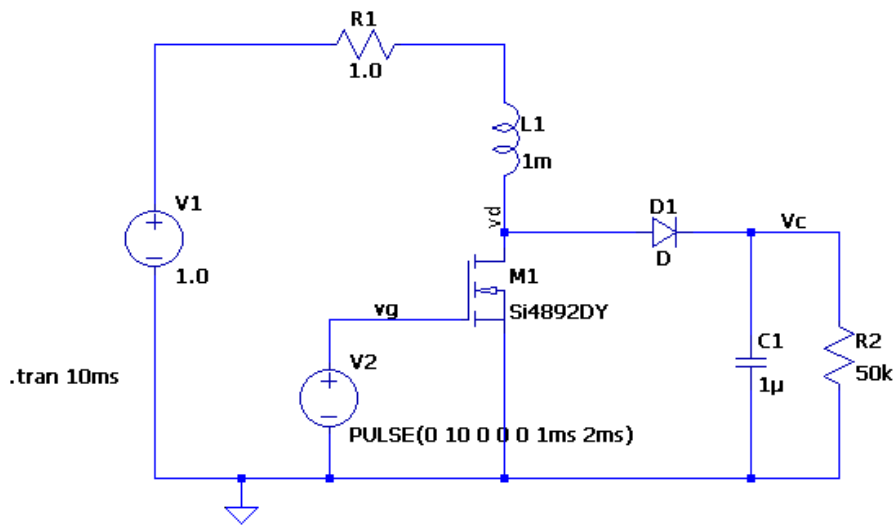
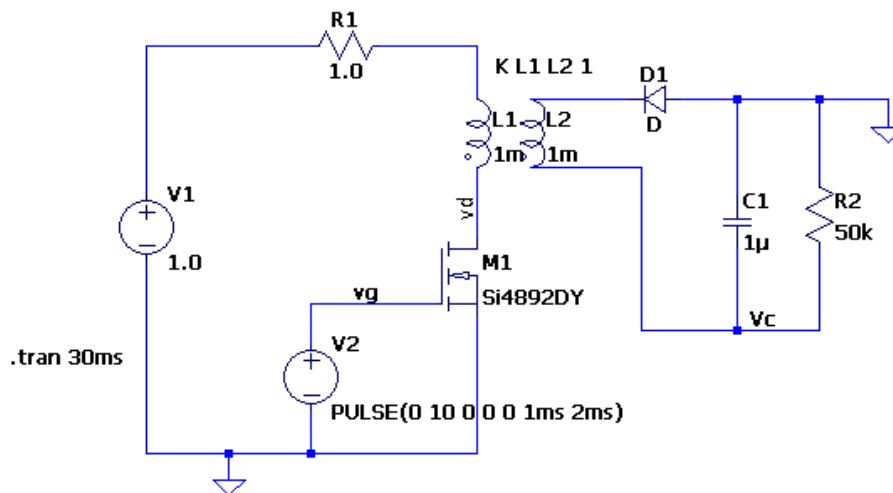
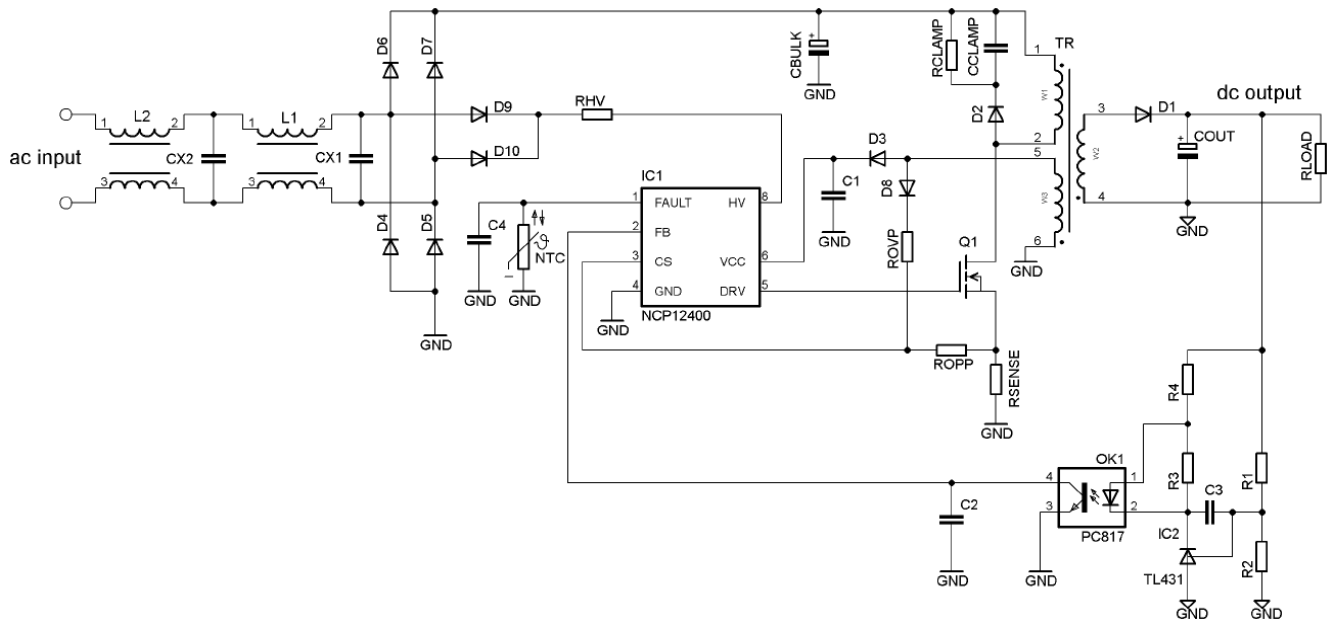

Figure 8: Smoothing the output voltage
Figure 9: A flyback power converter
Figure 10: A practical mains power supply (ON Semiconductor NCP12400 data sheet)
A continuous high voltage output would be more useful than pulses. Add a diode (from the toolbar), a capacitor of capacitance 1 $\mu$  and resistor of resistance 50k as shown in Fig. 8. The idea is that the 1  $\mu\text{F}$  capacitor C1 stores the output voltage, while the 50 k $\Omega$  resistor R2 represents a load circuit that makes some use of the high voltage power.
Ideally, all the power entering a circuit like Fig. 8 would be delivered to the load. Considering just one of the pulses, compare the maximum energy stored in the inductor with the amount delivered to the capacitor [the energy stored in an inductor is  $\frac{1}{2}LI^2$ , that in a capacitor is  $\frac{1}{2}CV^2$ ]. Also note the power lost in  $R1$  and comment on your result. You may find it helpful to use the cursor on the graphs to read values (shown at the bottom of the window).
A disadvantage of the circuit of Fig. 8 is that the output (e.g. 5 V dc USB power) cannot be isolated from the input (e.g. derived from 240 V ac mains). This could be a safety hazard. Now we add a second winding on the inductor to allow us to take power out of it without any electrical connection; the input and output circuits are coupled only by their shared magnetic flux.2
Convert your model to Fig. 9 (the Cut tool [scissors] is useful for removing circuit elements). Tell LTspice that the two inductors are coupled magnetically by using the Spice Directive button (looks like .op) » Edit text on the schematic » How to netlist = SPICE directive to add the text **K L1 L2 1** in the text box. Place the generated text near the inductors. Notice the reversed direction of the diode. For convenience in plotting, the  $V_c$  and ground terminals have also been interchanged. Run the simulator, and examine how the signals compare to those in the non-isolated circuit of Fig. 8.
In the separate practical “Switch mode power supply” experiment, you can build a circuit very similar to Fig. 9, and use it to generate a few hundred volts from a 1.5 V battery. A real mains power supply uses the same principle, as shown in Fig. 10. You should be able to identify in it all the key elements of Fig. 9, alongside its input power and control circuits.
*Enthusiastic students should be able to pick out some of the main components of the realistic circuit, thus: Correspondence between Fig. 9 and Fig. 10:*